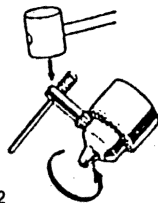

FIG. 2
3. Place key in chuck as shown in Figure 2. Using a wooden mallet or similar object, strike key sharply in a COUNTER-CLOCKWISE direction (Figure 2). This will loosen chuck so that it can be unscrewed by hand.